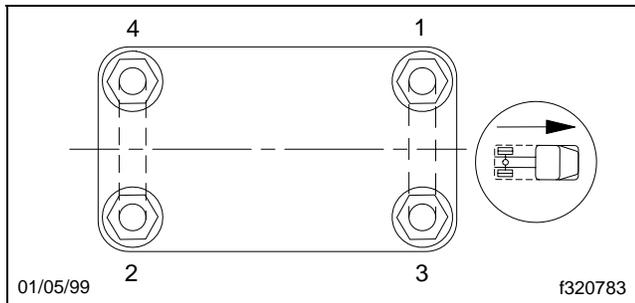

Fig. 3, U-Bolt Nut Tightening Sequence
- 11.6 Lubricate the threads of the new U-bolts to prevent galling, then install the new U-bolt nuts and tighten them 60 lbf-ft (81 N·m) in the sequence shown in **Fig. 3**.